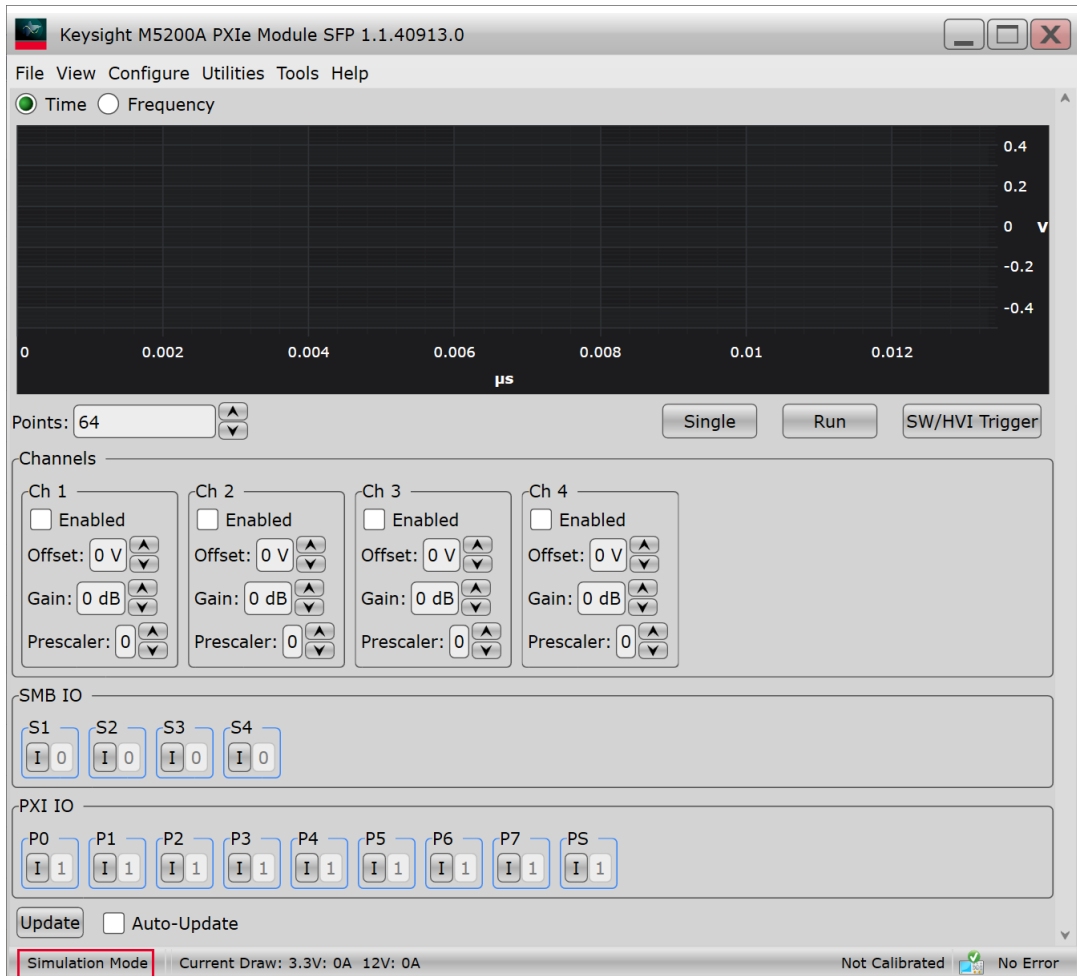

Figure 33 “Simulation Mode” in the status bar on the main window
- ‘Simulation mode’ enabled—This is the default mode of SFP operation. The **Simulation Mode** check box is selected by default and the **Simulate** button is displayed on the window. As the name indicates, this mode is used for offline SFP operations. In this mode, even if you select an active module (which is connected to a chassis in powered on state), toggling the SFP controls does not affect the signal state on the module. The status bar on the main window shows ‘Simulation Mode’, as shown in Figure 33.